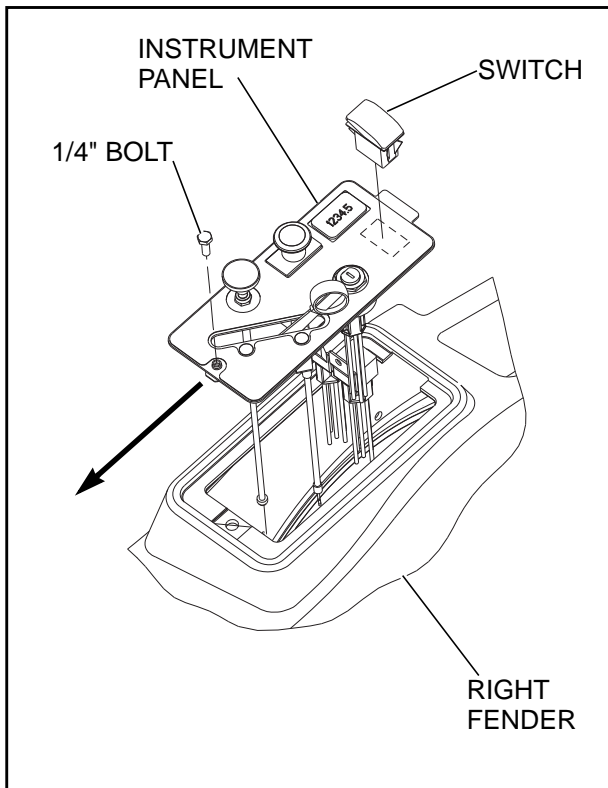

FIG. 1
3. Access the wiring connections and the bottom of the instrument panel on the right side fender by removing the 1/4" bolt, lifting the front edge of the instrument panel, sliding it forward and lifting it far enough away from the fender to allow disconnecting the ignition switch (Fig. 1).
4. Locate the rectangular opening to the rear of the ignition switch in the instrument panel. Using the panel as a guide, cut a rectangular hole in the instrument panel decal for the switch (Fig. 1).